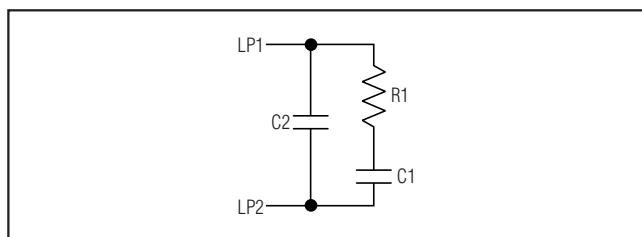

Figure 1. Typical Loop Filter
The MAX9486 features two PLLs: PLL1 and PLL2. The first phased-lock loop, PLL1, contains an integrated VCXO that uses an external crystal to track the input reference signal and attenuate input jitter. Figure 1 shows the external loop filter of the PLL containing resistor R1 and two capacitors, C1 and C2. This loop filter is connected between LP1 and LP2 as shown in the *Typical Operating Circuit*. The loop-filter bandwidth is determined by C1, C2, R1, and RSET where RSET is used to set the value of the charge-pump current. The typical values of C1, C2, R1, and RSET are 22nF, 560pF, 1000kΩ, and 13kΩ, respectively.
where R1 (Ω) is the resistor in the PLL1 loop filter (Figure 1), ISETI (A) is the charge-pump current calculated from the equation in the *Charge-Pump Current*
where C1 (F) and R1 (Ω) are the values of the capacitor and the resistor in the PLL1 loop filter shown in Figure 1; ISETI is calculated as shown in the *Charge-Pump Current Setting* section and N = 2208.